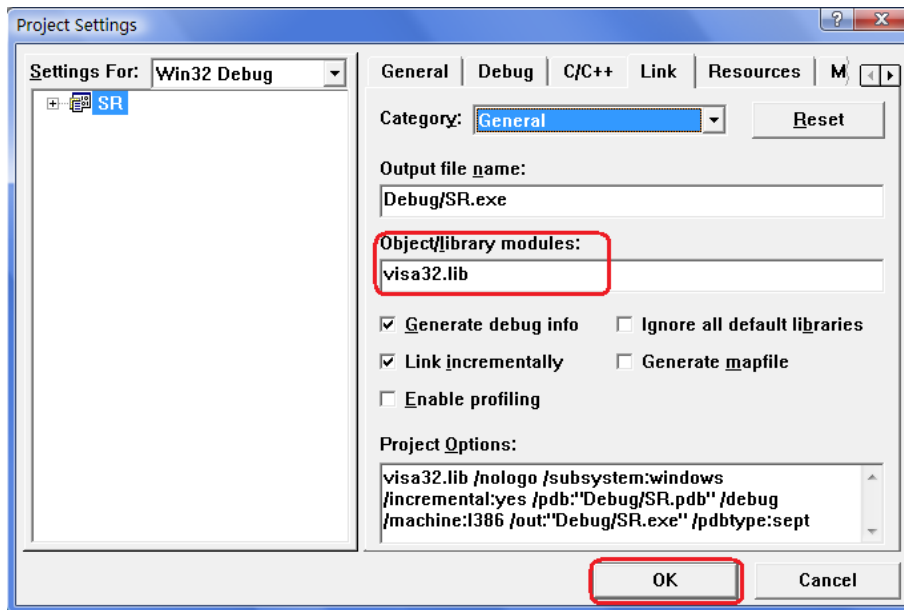

Figure 4-1-2
3. Choose Project-> Settings-> Link, add the file visa32.lib manually in Object/library modules; click OK; as is shown in figure 4-1-2.